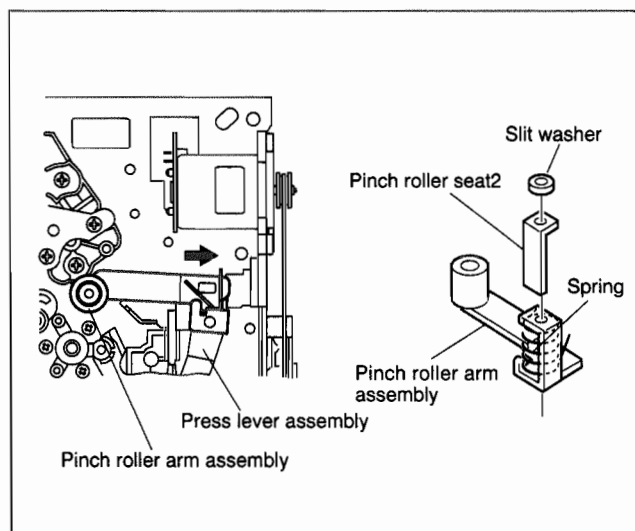

Fig. 2-2-11
- (1) Remove the spring from the hook of the press lever assembly.
- (2) Remove the slit washer and remove the pinch roller seat 2. (See Fig.2-2-11.)
- (3) Remove the pinch roller arm assembly by pulling it up.